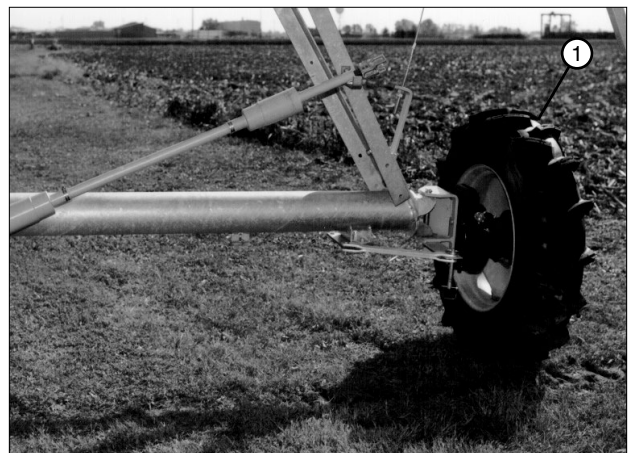

Figure 27-2 1. Tire Shown In Tow Position
9. Lower the drive unit and remove the jack. The tire is now in the tow position. See figure 27-2.